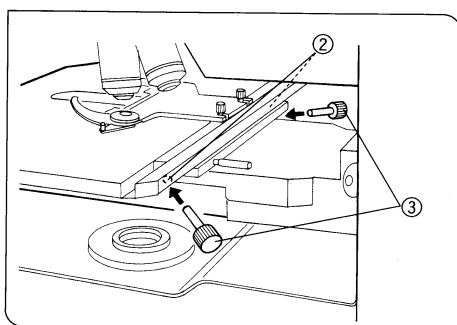

Fig. 34
4. Turn the coaxial movement knobs to move the specimen so that the detail coincide with the cross line center again C → A. (Fig. 34)